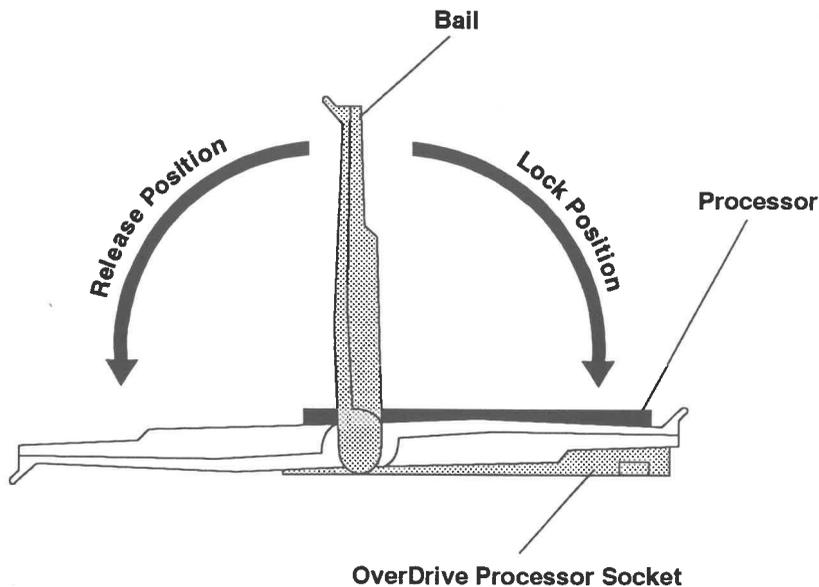

Figure 3-4 Installing a Processor
5. Pivot the Intel OverDrive socket bail to its released position (see Figure 3-4). If a processor is currently installed in the socket, remove it by lifting it straight up.
8. Pivot the socket bail into its locked position (see Figure 3-4).